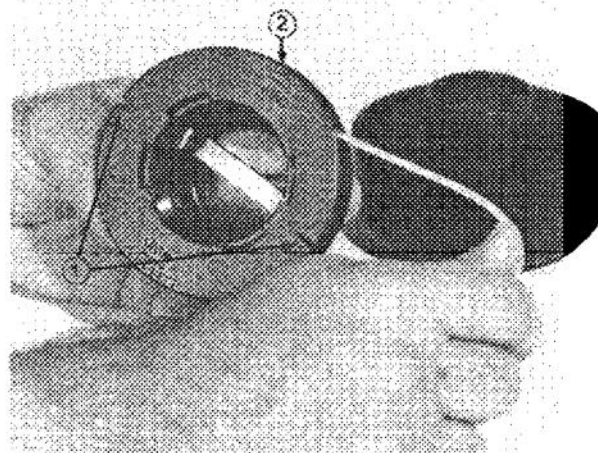

Figure 40
2. To rewind empty spool, hook end of line into grooved notch on spool. Wind line around spool in direction signified by arrow identified with word "GAS". Wind line in level rows between flanges to avoid crossover or criss-crossing which can affect proper line advancing (Fig. 40).